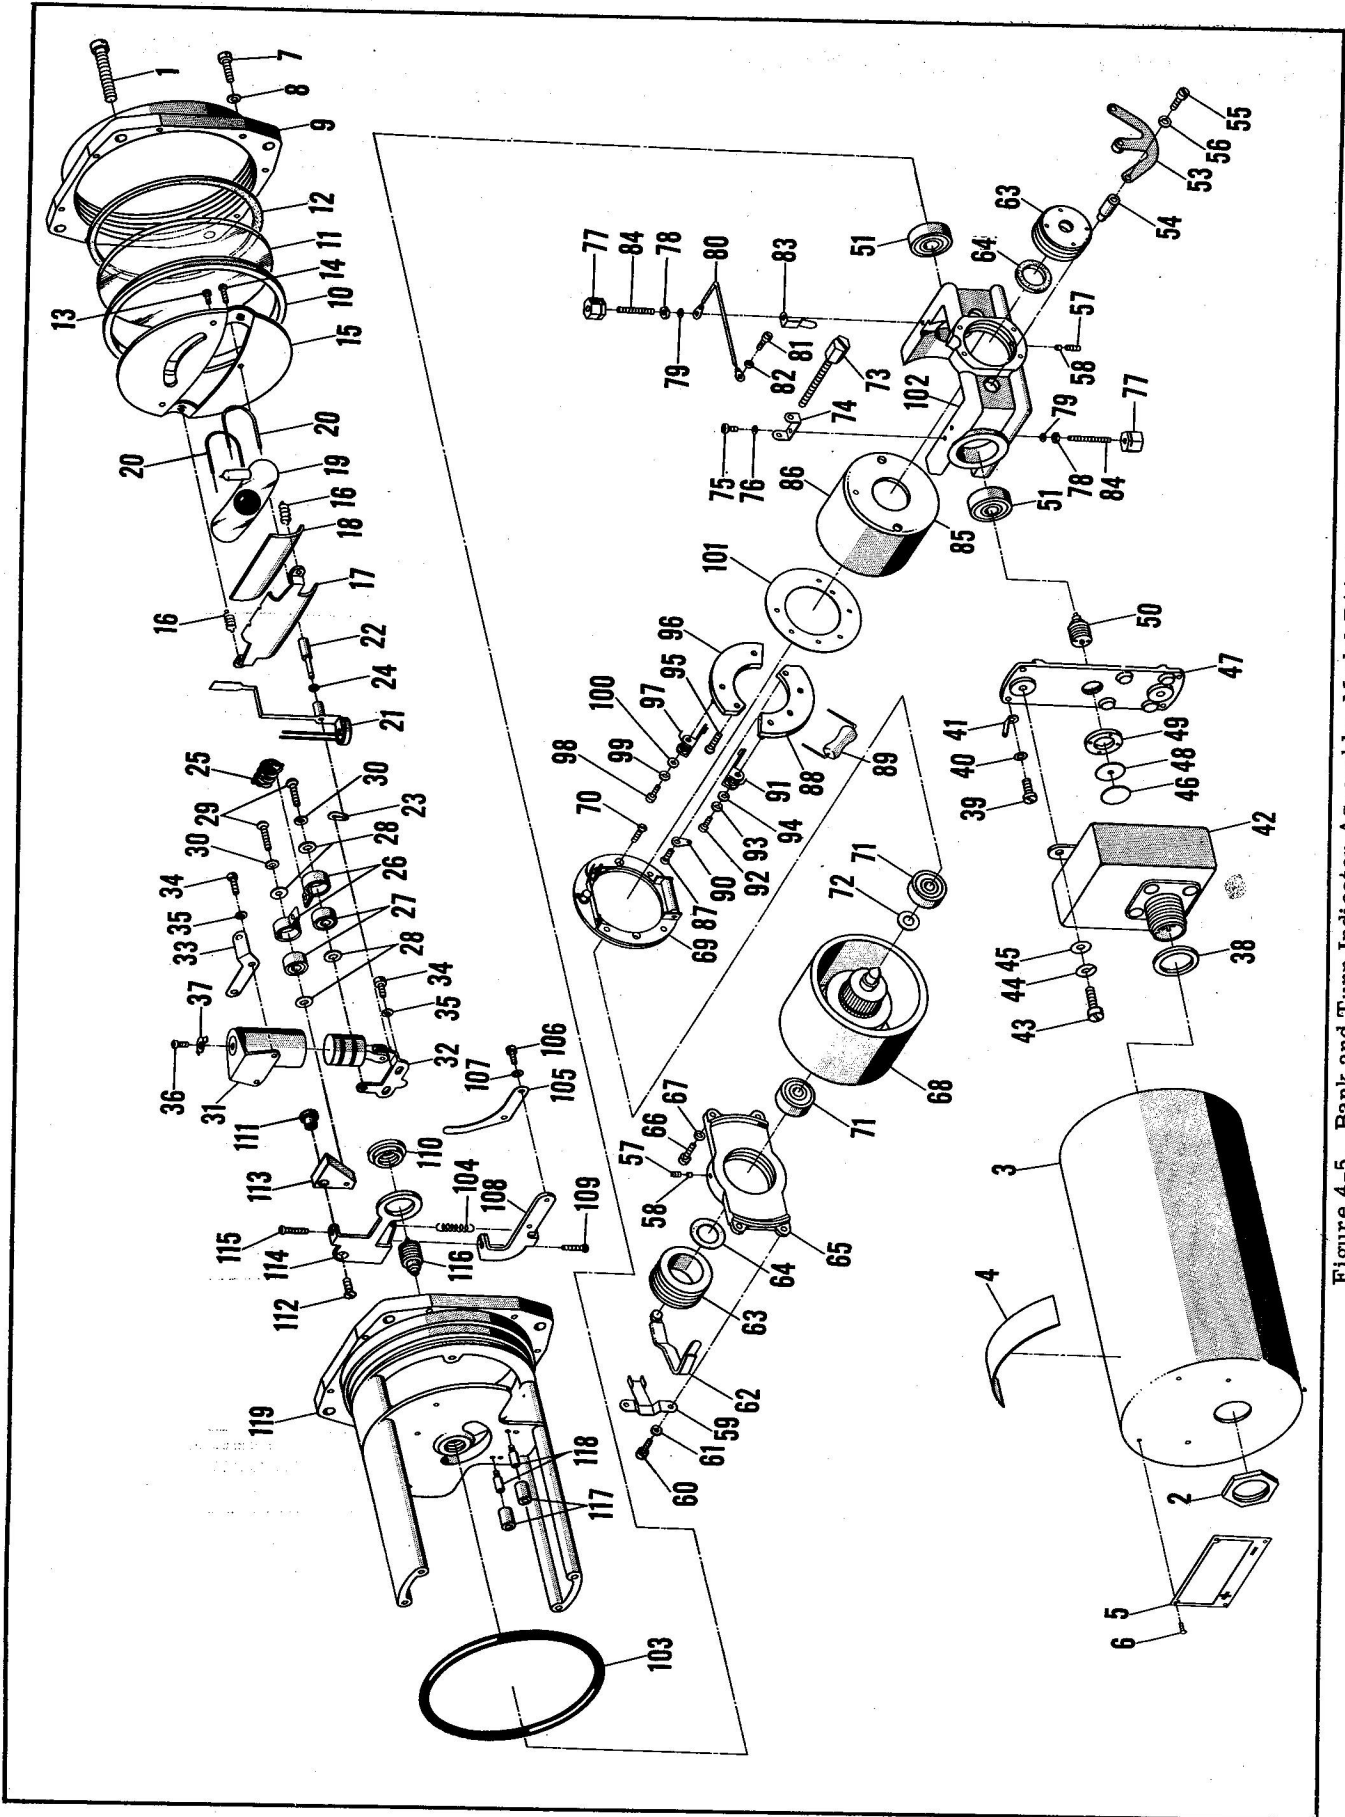

Figure 4-5. Bank and Turn Indicator Assembly, Model B4A-B
DISASSEMBLY. (See figure 4-5.) Same as Model B4 except that filter assembly (42) replaces individual radio noise filtering components used on Model B4 and insulation (46) is used between insulating washer (48) and the filter assembly. Remove and discard spring washer between contact pivot assembly (116) and ball bearing (51), if present.
KEY FOR FIGURE 4-5